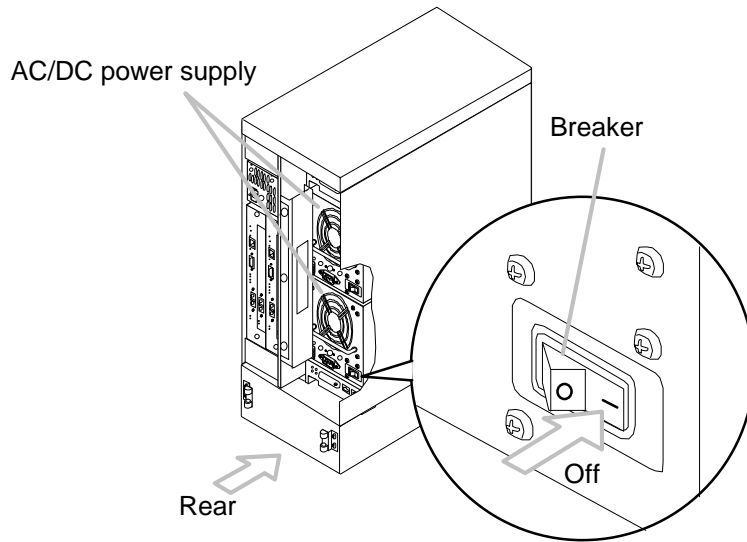

Figure 4.22 Main Switch
2. Set all the breakers in the AC/DC power supply units to off. (see figure 4.22)